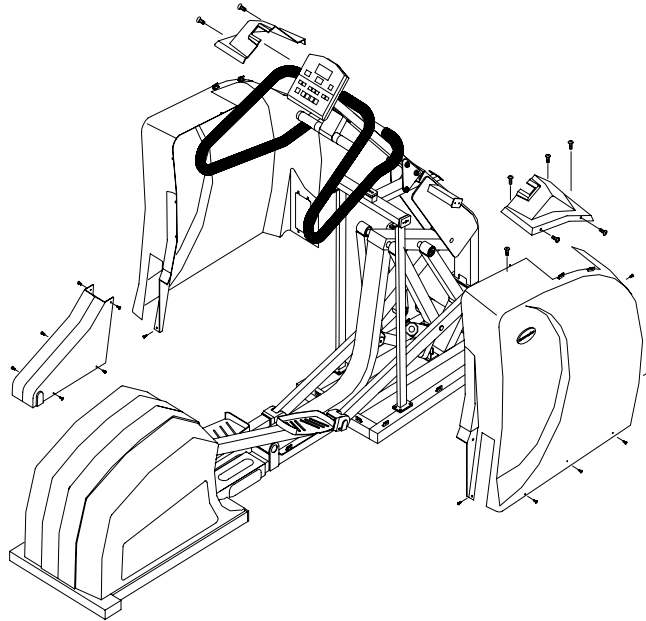

Fig. 1
1. Take off covers by removing screws as shown in Fig. 1 below.